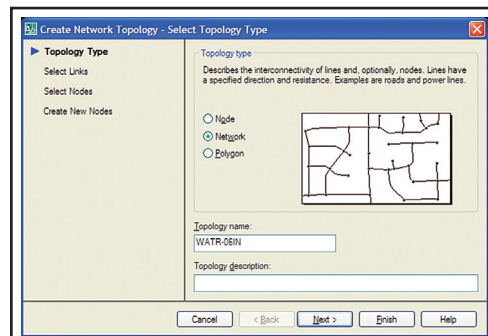

Figure 2 – Create a Network Topology
4. Specify your topology type – As discussed earlier, there are three distinct topology types available within Map 3D: Node, Network, and Polygon. From the "Select Topology Type" dialog box, select the "Network" radio button. The title of the dialog box should update to read "Create Network Topology – Select Topology Type" (Figure 2).
5. Give your Topology a Name – Although you will likely discard your topology after calculating its length, you still must give it a name. Use something logical. If calculating the length of an 8-inch waterline, a logical name may be "WATR-08IN" (Figure 2). You may also choose to provide a description, though it does not affect the functionality of the topology command. Press the [Next] button.